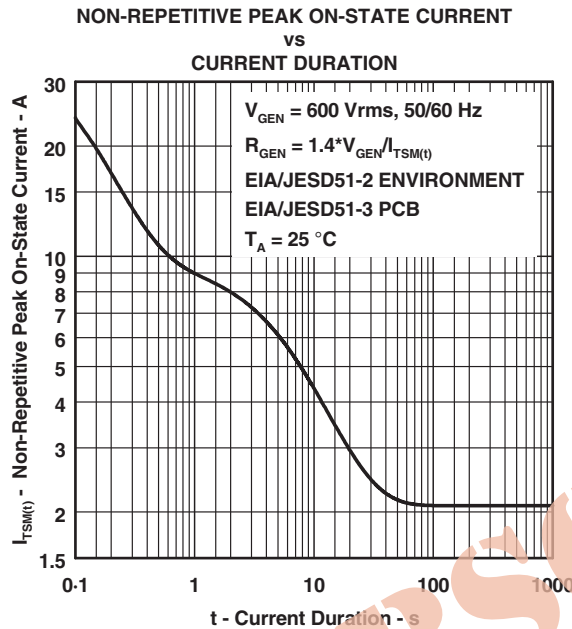

Figure 8.
5. EIA/JESD51-2 environment and EIA/JESD51-3 PCB with standard footprint dimensions connected with 5 A rated printed wiring track widths. See Figure 8 for the current ratings at other durations. Derate current values at  $-0.61\% / ^\circ\text{C}$  for ambient temperatures above  $25^\circ\text{C}$
The protector can withstand currents applied for times not exceeding those shown in Figure 8. Currents that exceed these times must be terminated or reduced to avoid protector failure. Fuses, PTC (Positive Temperature Coefficient) resistors and fusible resistors are overcurrent protection devices which can be used to reduce the current flow. Protective fuses may range from a few hundred milliamperes to one ampere. In some cases, it may be necessary to add some extra series resistance to prevent the fuse from opening during impulse testing. The current versus time characteristic of the overcurrent protector must be below the line shown in Figure 8. In some cases there may be a further time limit imposed by the test standard (e.g. UL 1459 wiring simulator failure).